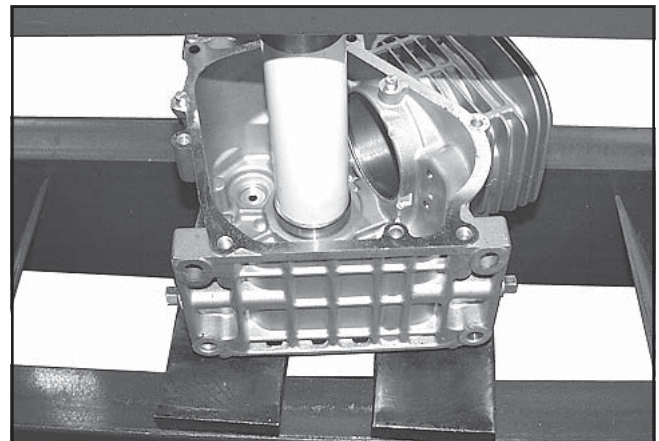
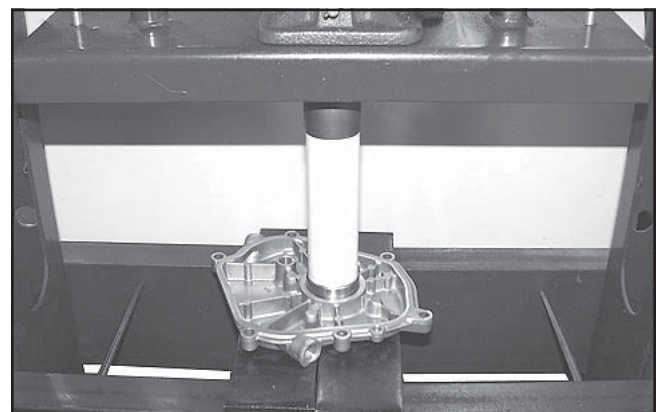

Figure 11-1. Installing Crankcase Main Bearing.
Figure 11-2. Installing Closure Plate Main Bearing.
1. Make sure there are no nicks, burrs, or damage in the bores for the bearings. The crankcase (see Figure 11-1) and closure plate (see Figure 11-2) must be clean.